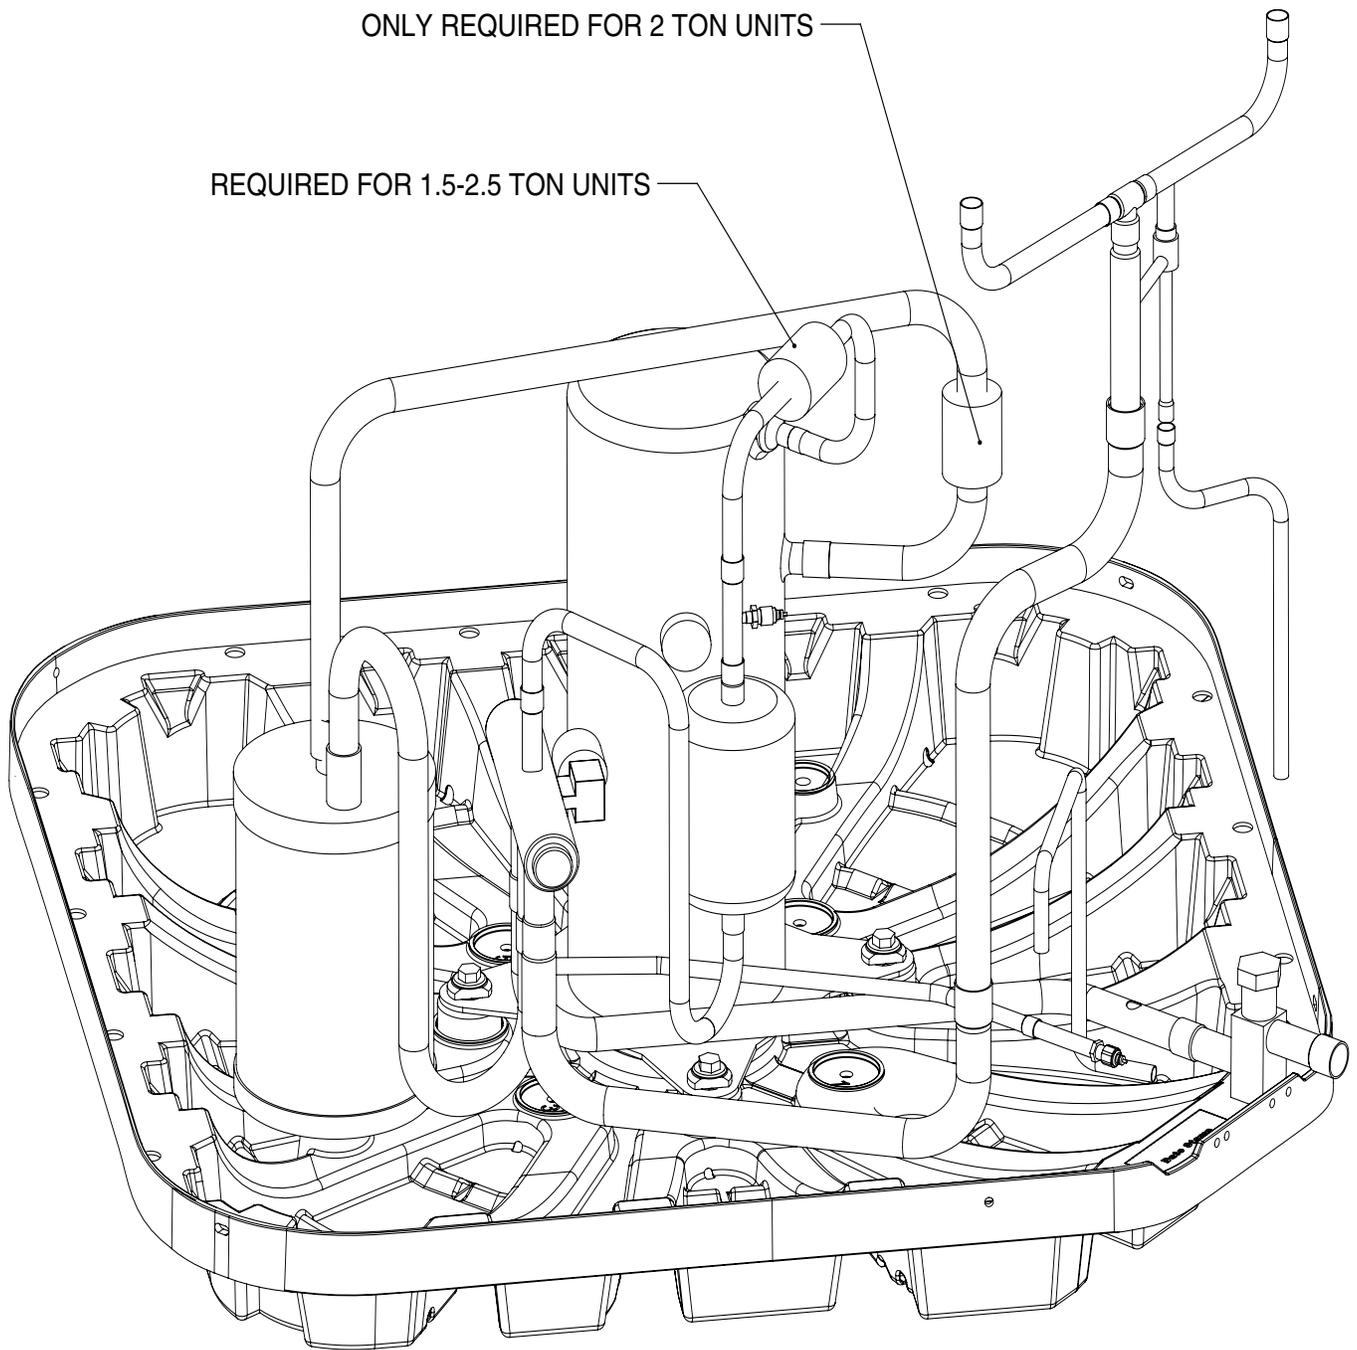

Figure 1. Anti Vibration Mass Locations
The anti-vibration rubber masses included in this kit are for installation on the suction line and the discharge line as shown in Figure 1 \(page 2\). The rubber masses in the kit are pre-slit for easier installation. Install all masses included in this kit as instructed. Table 1 lists the components that are included in the Anti Vibration Kit.
3. Wrap the anti-vibration masses around the suction & discharge tubes as shown in Figure 1.
- If the unit is a 1.5 - 2.5 ton microchannel heat pump, install one rubber mass on the discharge tube as shown in Figure 1.
- If the unit is a 2 ton microchannel heat pump, install one rubber mass on the suction tube as shown in Figure 1.